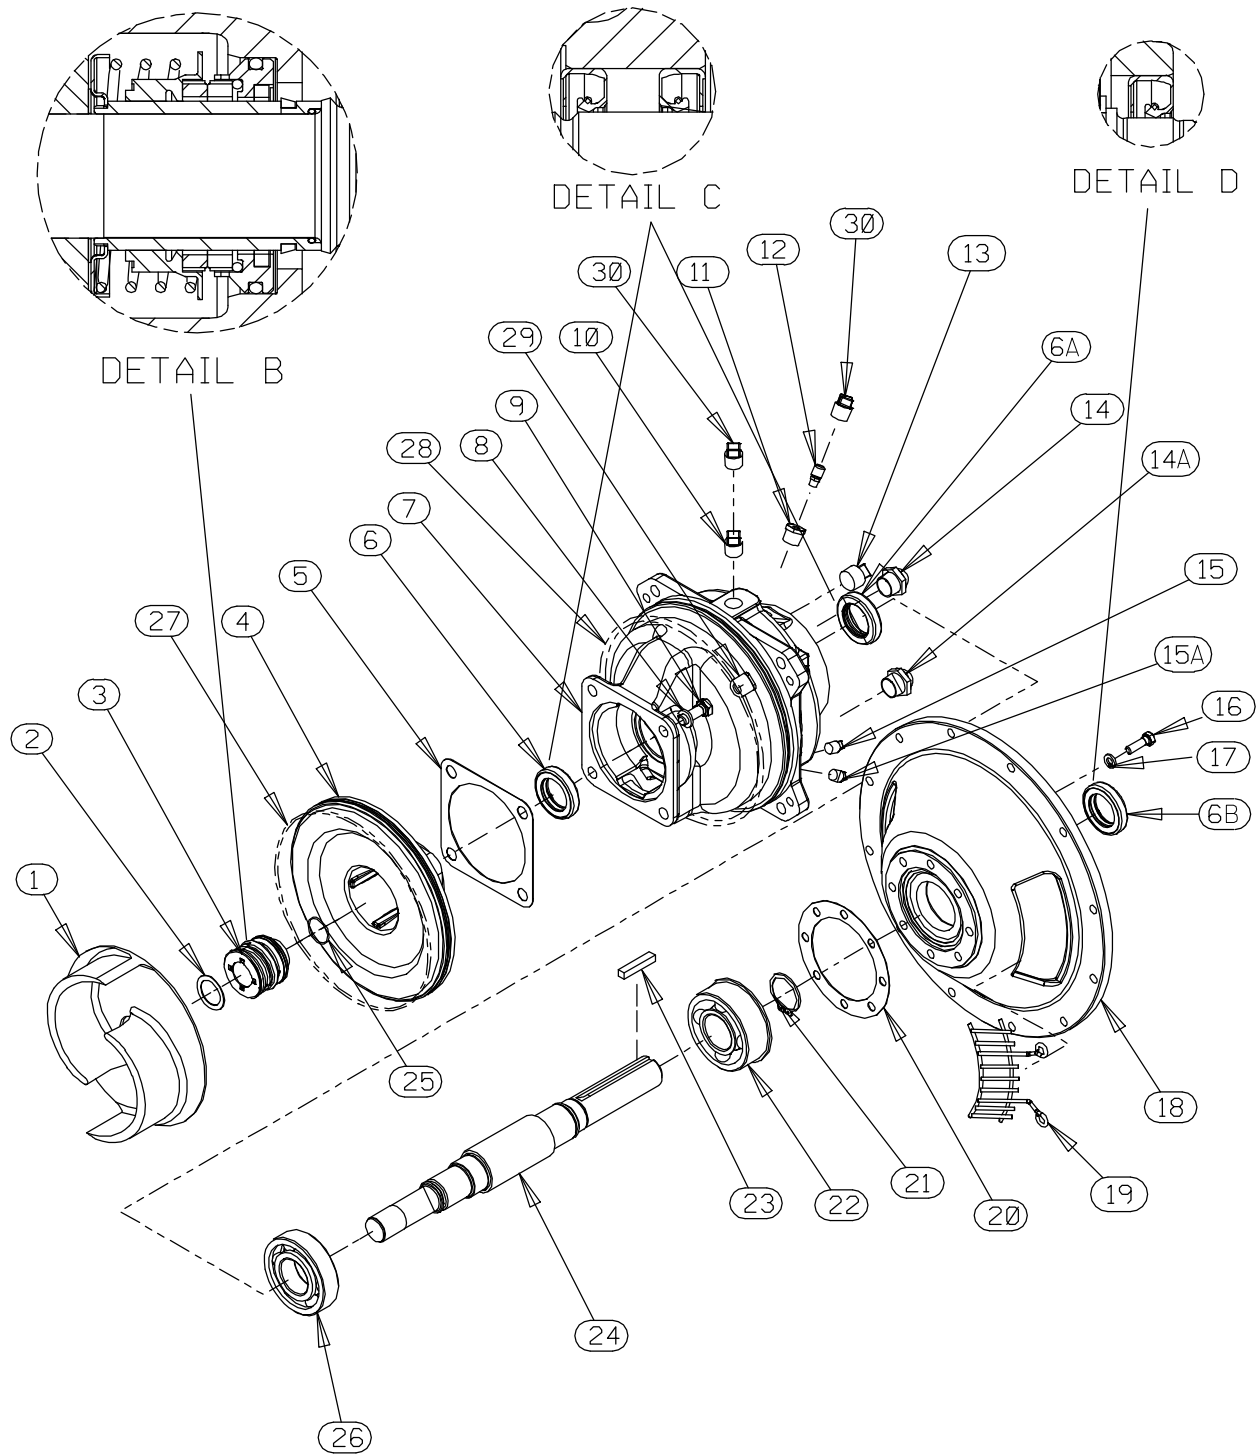

Figure 5. 44163-492 Repair Rotating Assembly
Disengage the hardware (2 and 3, Figure 2) securing the drive flange to the engine bellhousing, and remove the guards (19, Figure 5). Separate the pump end and drive assembly from the engine by pulling the pump end straight away from the engine.
two allen head setscrews from the bushing (1). Screw one of the setscrews into the puller hole on the circumference of the bushing. As the coupling and bushing separate, remove the bushing, and slide the coupling off the shaft. Remove the shaft key (23, Figure 5).
(Figure 5)